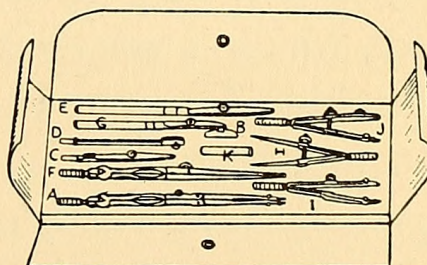
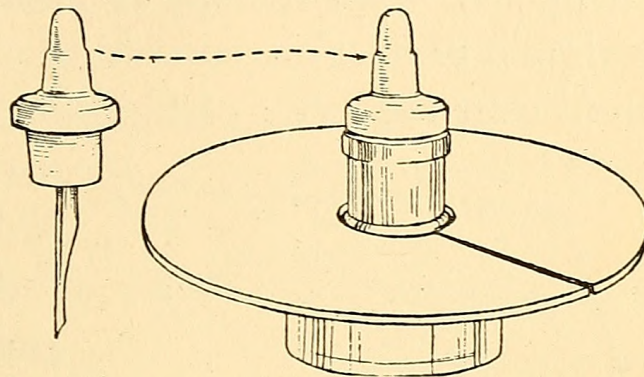

FIG. 100. — A Students' Set of Drawing Instruments.
FIG. 102. — Drawing-ink Bottle with Card-board Collar to prevent Upsetting.
The ink is dropped between the blades by means of the quill upon the end of the cork furnished with the bottles of drawing ink (Fig. 102). Figure 100 shows
**Drawing Ink.** Specially prepared India ink (Higgins' Waterproof India Ink is almost universally used) should be bought for use in preparing ink drawings. This comes in small bottles with a quill upon the end of the cork with which to fill the ruling-pen (Fig. 102). Drawing inks may also be had in colors.
draftsman experiences is the upsetting of his ink-bottle on a drawing after working perhaps three or four days upon it. This is certain to happen sooner or later, if the bottle is set without a holder upon the table, and frequently when the boy is careless. Figure 102 shows a simple protection, consisting of a cardboard collar cut to fit over the neck of the bottle and of a large enough